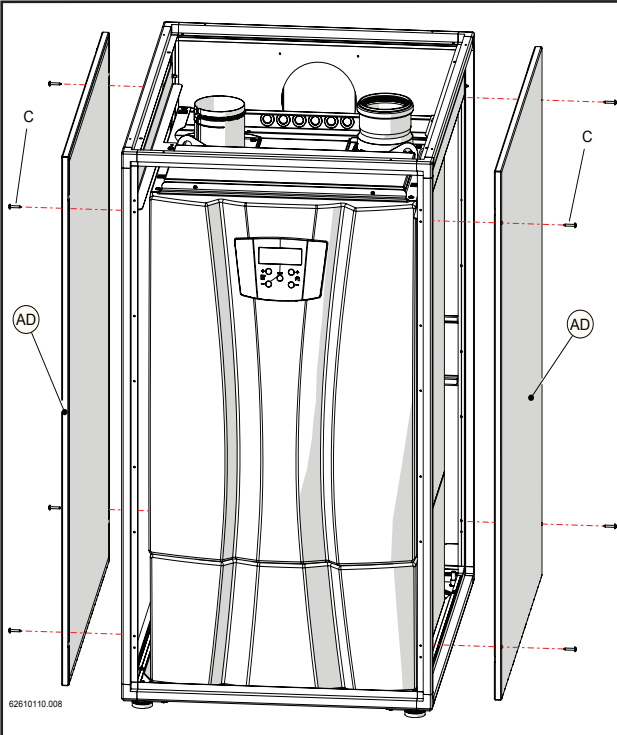

Figure 15-22
- 12.- Put on the side covers (AD), attaching them to the structure with screws "C" (figure 15-22).